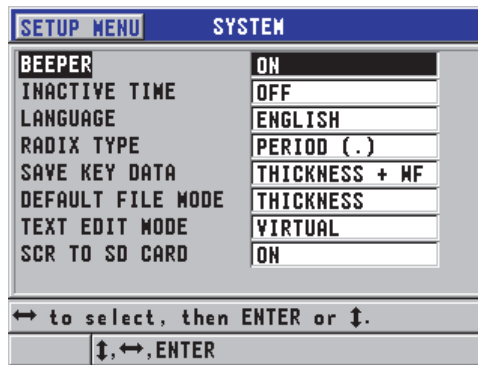

Figure 8-2 The **SYSTEM** screen
- In the measurement screen, press **[SETUP]**, and then select **SYSTEM**. The **SYSTEM** screen appears (see Figure 8-2 on page 152).